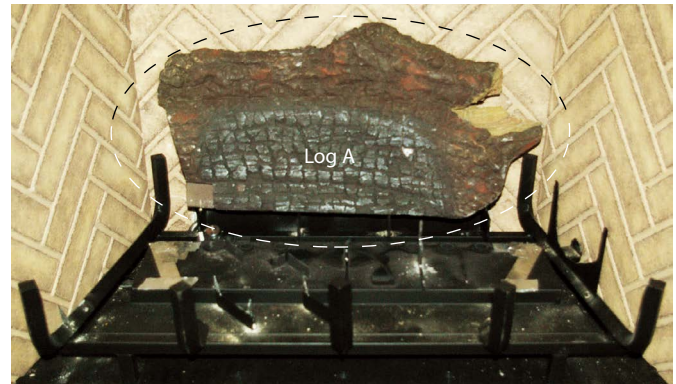

Figure 18d. Location of Log 'A'.
Step 3. Position Back Log 'A' from the previously unpacked package, (**Figure 18**). Place the Log upright, (as shown **Figure 18d**) and move the Log flush against the sheet metal Back Pan. Without pressing the Log down, move it as far to the left as possible, bumping the bottom Left corner against the alignment tab, (**Figure 18a & 18d**). Lastly, Press the Log **FIRMLY** downward, onto the sharp spikes, shown in **Figure 18a & 18e**.